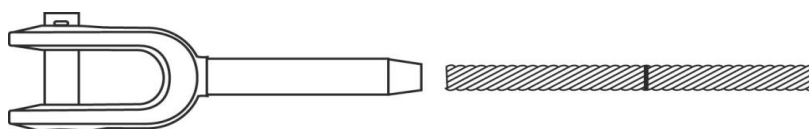

Figure 1: Mark the rope to indicate proper amount to insert into socket
- Mark the rope to indicate the proper length of rope to be inserted into the socket (See Figure 1).